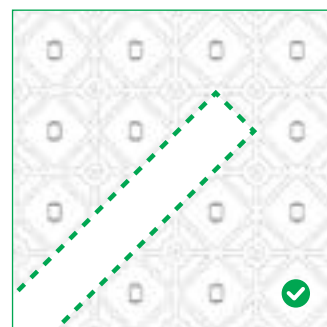

Figure 5
- **Note:** removing a diagonal strip from a light sheet will not affect the function of the remaining sheet (figure 5).